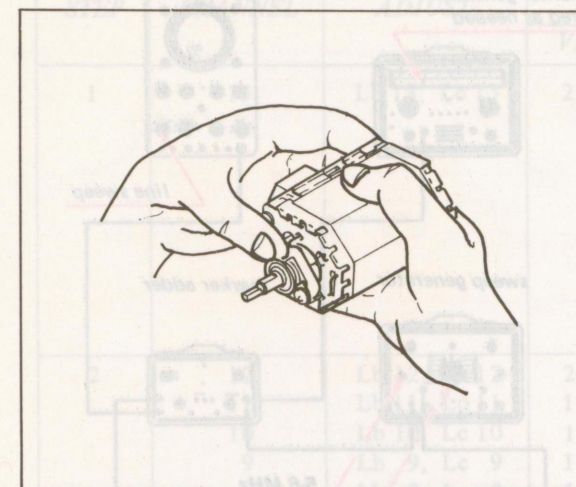

Fig. 5-1. Tuner cover removal (1)
1. Push both side of the cover with the hands as shown in Fig. 5-1.